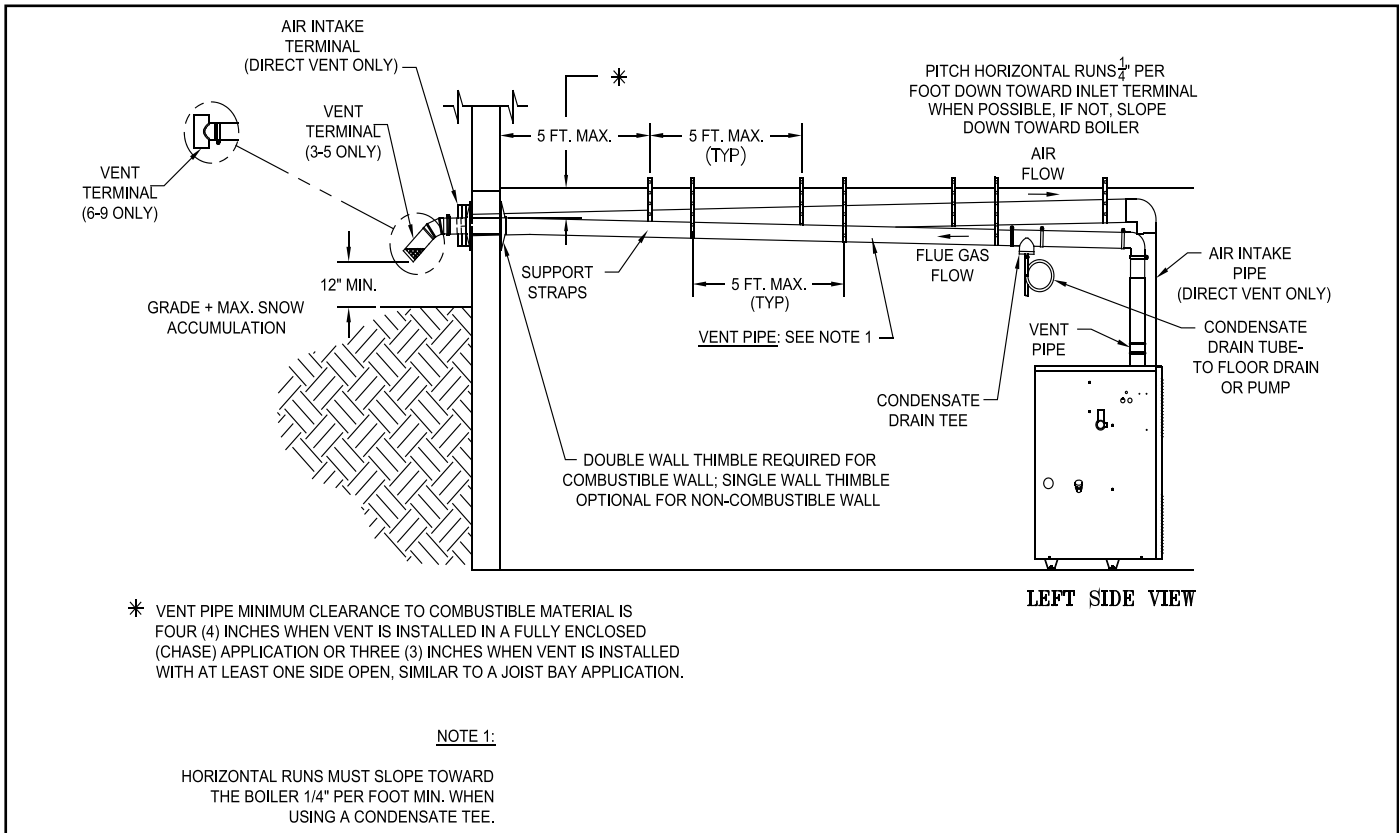

Figure B-3: Separate Horizontal – Vent/Air Intake Installation
- Install vent and intake piping per Figure B-3.